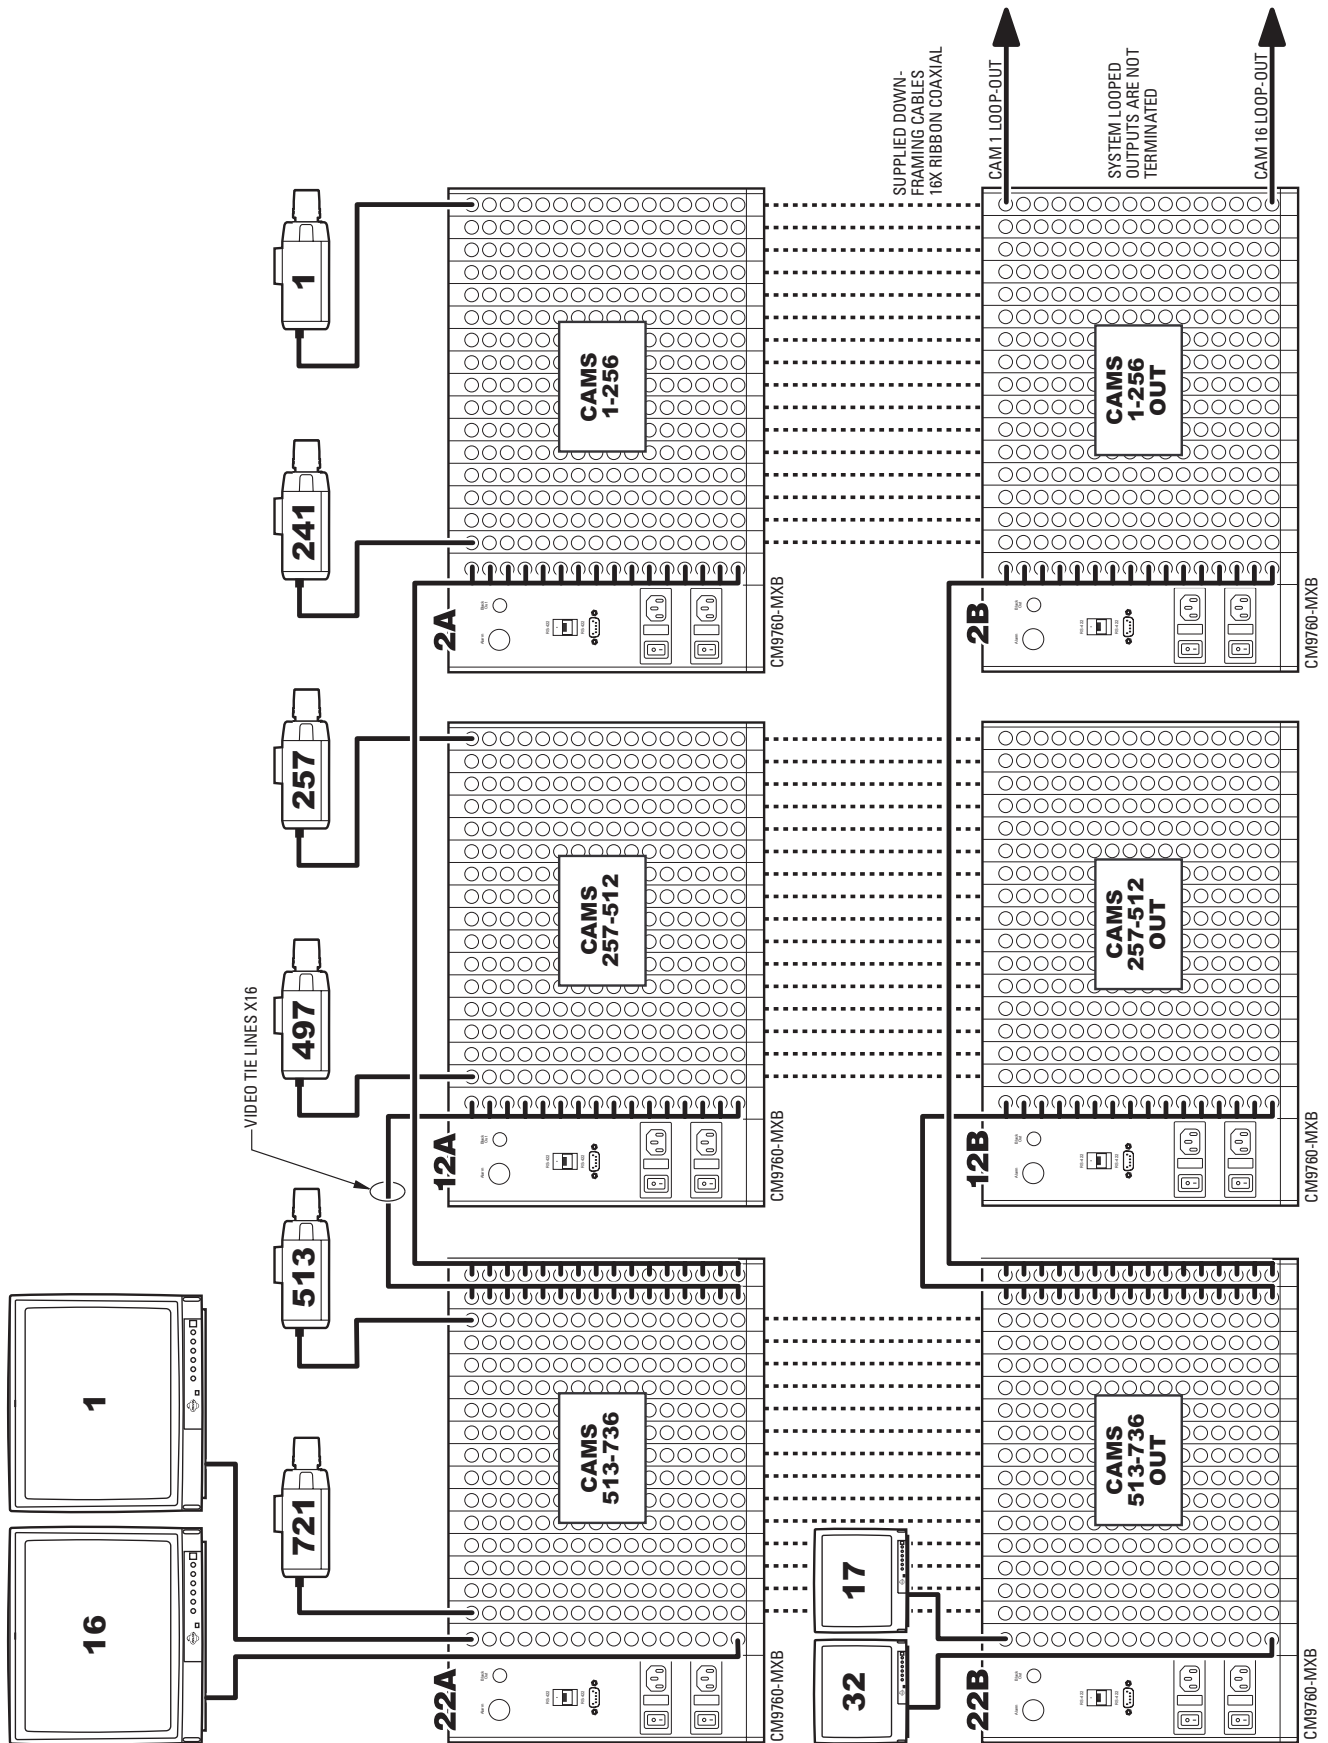

Figure 74. Sideframing and Downframing: 736 x 32 Configuration, Looping
- 736 x 32, looping (refer to Figure 74)